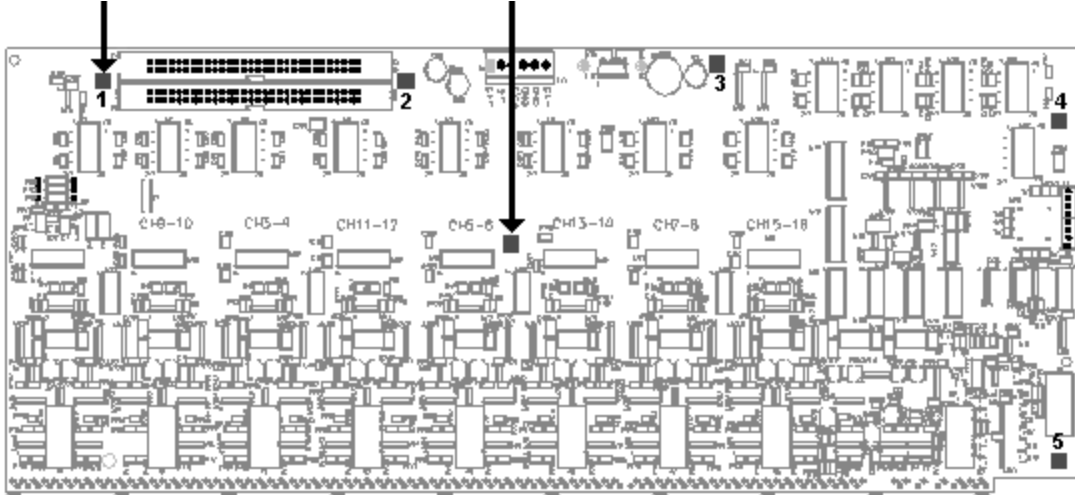

Figure 1. Location of mounting holes that require flat washers.
3. Locate the audio board ; it is the larger board at the back of the chassis. Remove each screw at locations shown in Figure 1.
4. Place a #6 nylon washer on top of the PCB at each mounting hole in locations 1 through 5 in Figure 1. A pair of tweezers is helpful for positioning the washers.
5. Place the #6 zinc washer at the mounting hole in the center of the board (Figure 1).